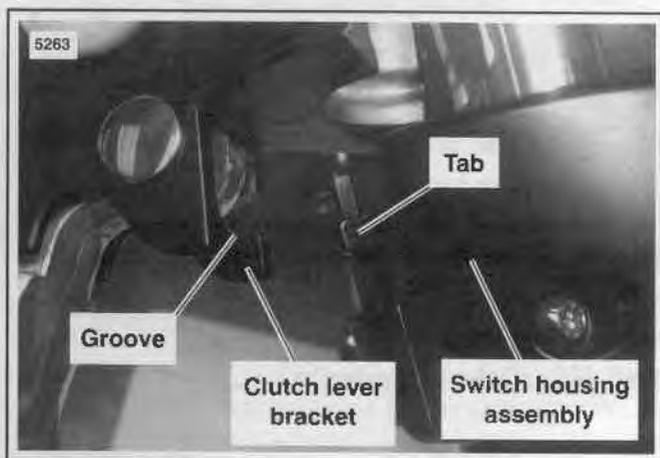

Figure 8-67. Fit Clutch Lever Bracket to Left Handlebar Switch Housings
5. See Figure 8-67. Position the clutch hand lever assembly inboard of the switch housing assembly, engaging the tab on the lower switch housing in the groove at the bottom of the clutch lever bracket.